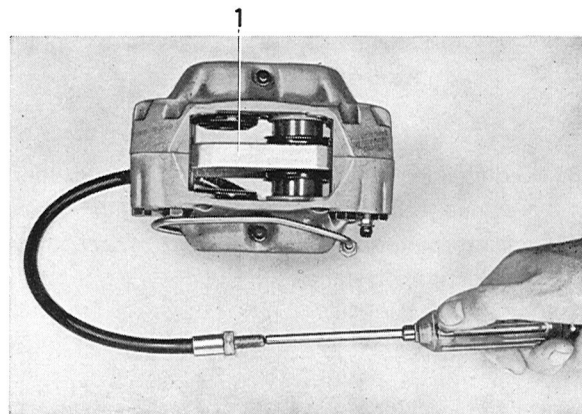

Fig. 5-21. Removing pistons
2. Remove the retaining rings and the rubber dust covers. Place a wooden disc, see Fig. 5-3, between the pistons and press them out towards the disc with the help of an air line, see Fig. 5-21.